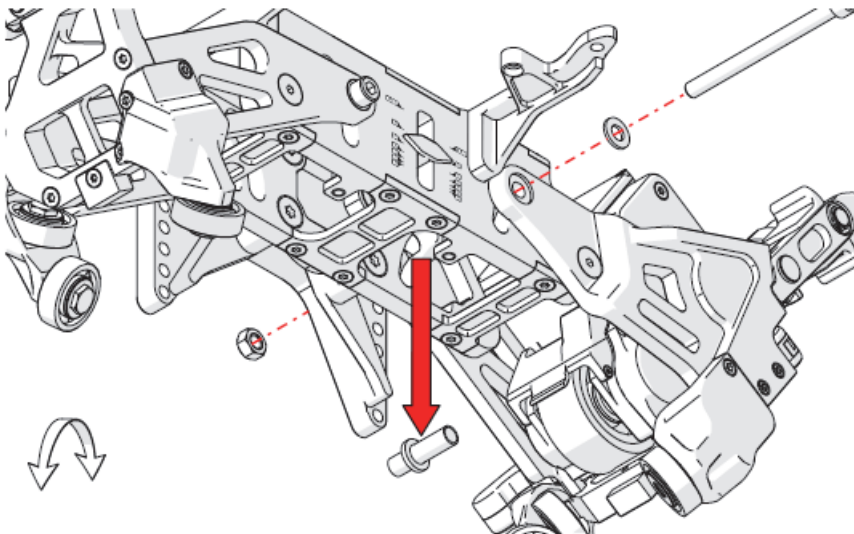

Figure 2-6 Removing pivot clamp bolt
5. Using a 6mm hex driver, remove the pivot clamp bolt (see Figure 2-6 on page 87).
2. Using a 6mm hex driver, remove the pivot clamp bolt and set aside the bolt, nut, washer, and inner sleeve (see Figure 2-6 on page 87).